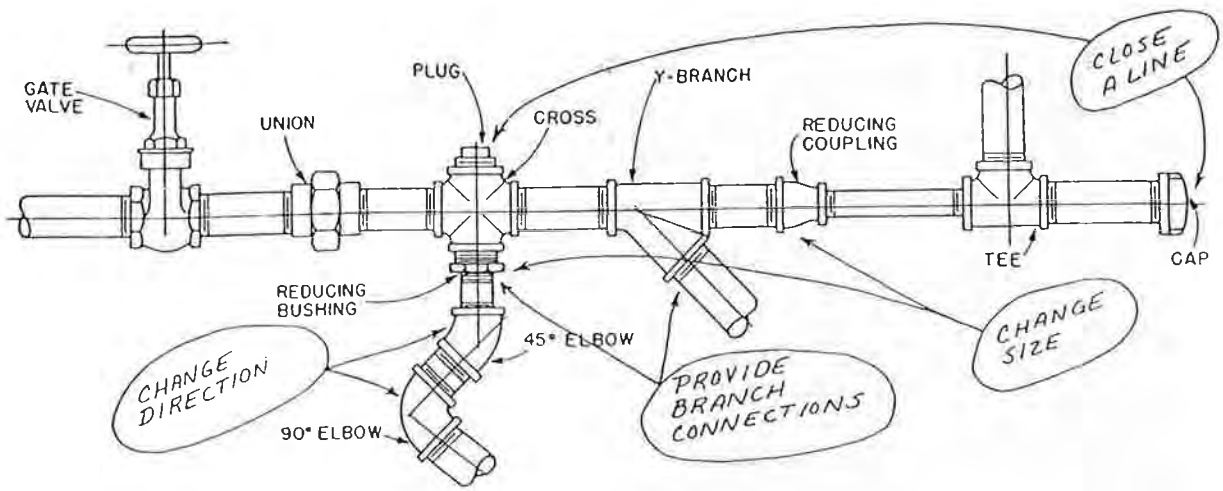

Fig. 6-5. Functions of fittings.
6.19 Figure 6-5 is a diagram of a shortened piping system, drawn to show the fittings that have been described. In an actual piping system it is unlikely that you will find so many fittings so close together in a line.